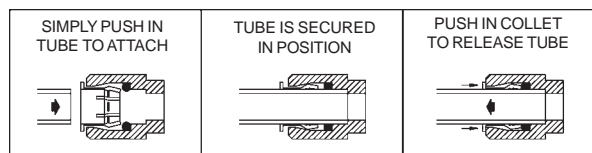

FIG. 17
To insert tubing, push tube straight into fitting until it reaches a positive stop. To remove tubing from the fittings, relieve water pressure, push in on dark gray collar while pulling out on the tubing. See Figure 17.
**Actuation of Quick Connect Water Fittings:** Fountain is provided with lead-free connectors which utilize an o-ring water seal. To remove tubing from the fitting, relieve water pressure, push in on the gray collar while pulling on the tubing. (See Fig.17) To insert tubing, push tube straight into fitting until it reaches a positive stop, approximately 3/4".